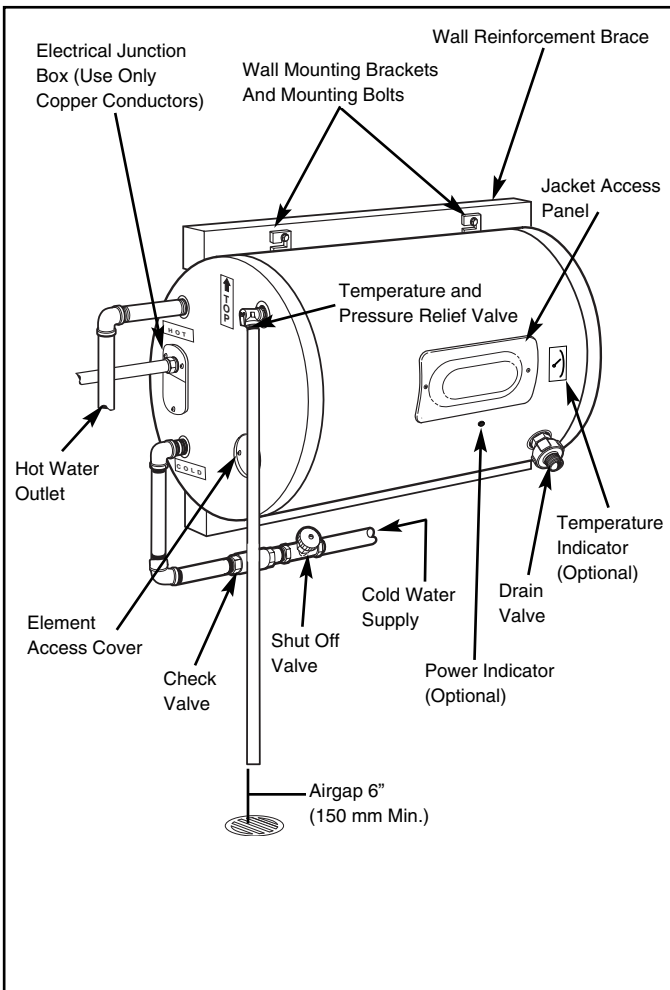

Figure 1.- Typical Horizontal Installation
- 3. WATER SUPPLY CONNECTIONS** — Refer to Fig. 1 or 2 for suggested typical installation. The installation of unions or flexible copper connectors is recommended on the hot and cold water connections so that the water heater may be easily disconnected for servicing if necessary. The HOT and COLD water connections are clearly marked and are 3/4" NPT on all models. Install a shut-off valve in the cold water line near the water heater.
- 4. RELIEF VALVE** — A new combination pressure and temperature relief valve, complying with the Standard for Relief Valves and Automatic Gas Shutoff Devices for Hot Water Supply Systems, ANSI Z21.22, must be installed in the opening provided and marked for the purpose on the water heater (Refer to Fig. 1 or 2). No valve of any type should be installed between the relief valve and the tank. Local codes shall govern the installation of relief valves.